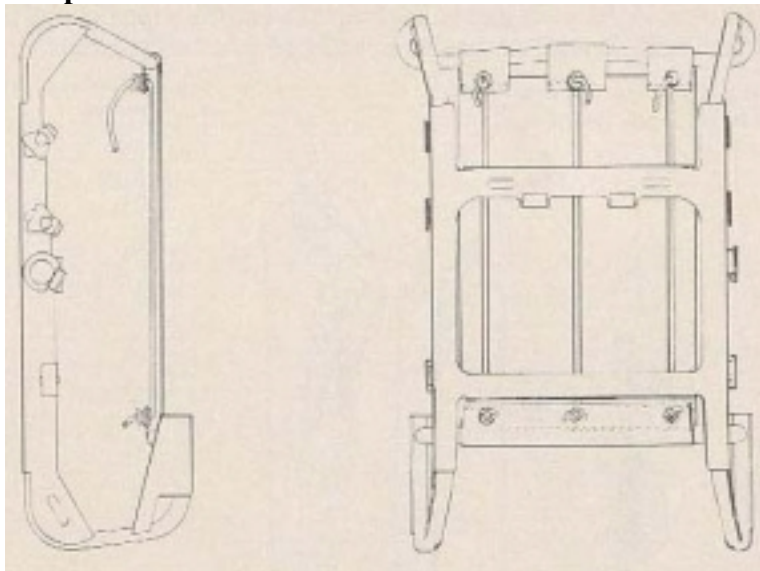

Figure 4. Attaching Backrest to Pack Frame
- B.** Place nylon backrest over top and bottom horizontal tubular parts of pack frame. Refer to figure 4. The 3-tab end of backrest goes on top. Lace nylon string between eyelets on top and bottom of backrest and tie securely. Strings should be on the inward side of the pack frame